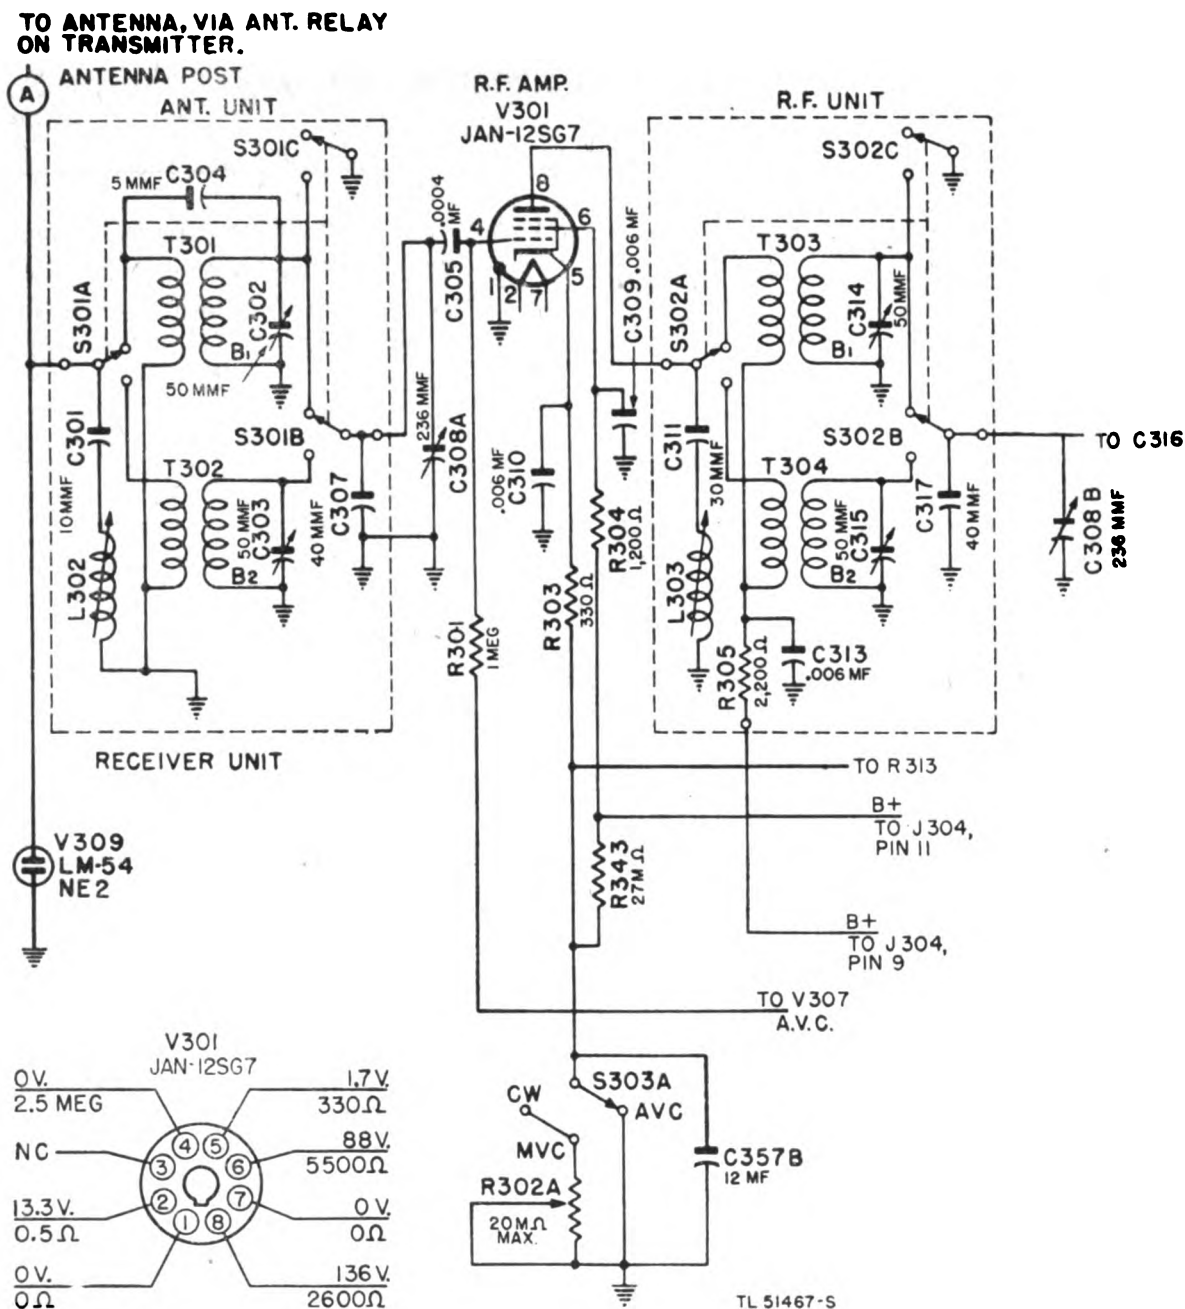

Figure 15. Radio-frequency amplifier stage schematic, Radio Receiver BC-652-A.
a. STAGE DATA. (1) Radio-frequency stage schematic shown in figure 15.
(2) Voltage and resistance values for socket
(fig. 15)